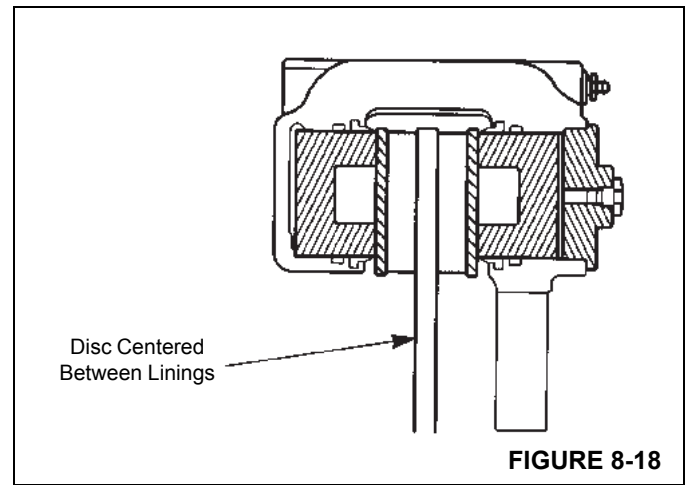

FIGURE 8-18
- b. The shims must be steel, ground flat, and parallel and must cover the entire mounting surface of the hub or housing. The linings must move freely in the housing and between the end plates (Figure 8-18).